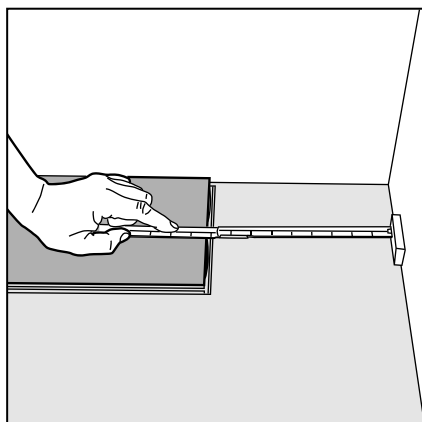

Figure 14 Last plank, first row
- ▶ Measure the length of this panel to fit (Fig 14), cut to correct length (minimum length 350mm).